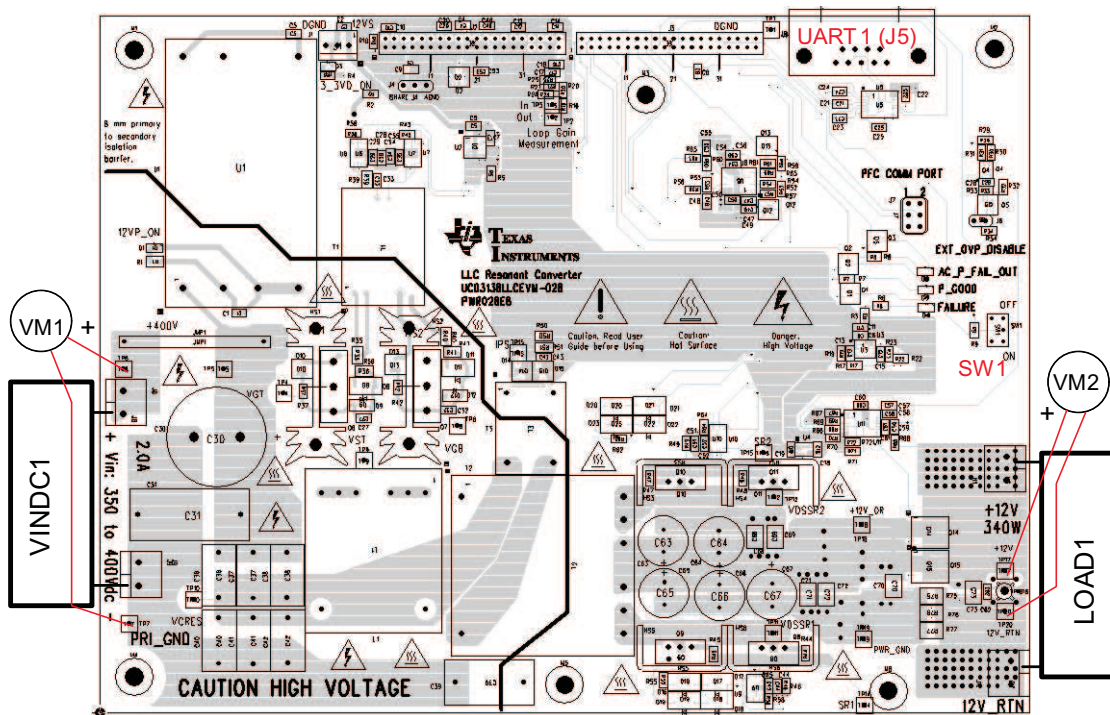

Figure 5. UCD3138LLCEVM-028 Recommended Test Set Up
1. Refer to Figure 5 for basic set up to measure power conversion efficiency. The required equipment for this measurement is listed in Section 5.1.